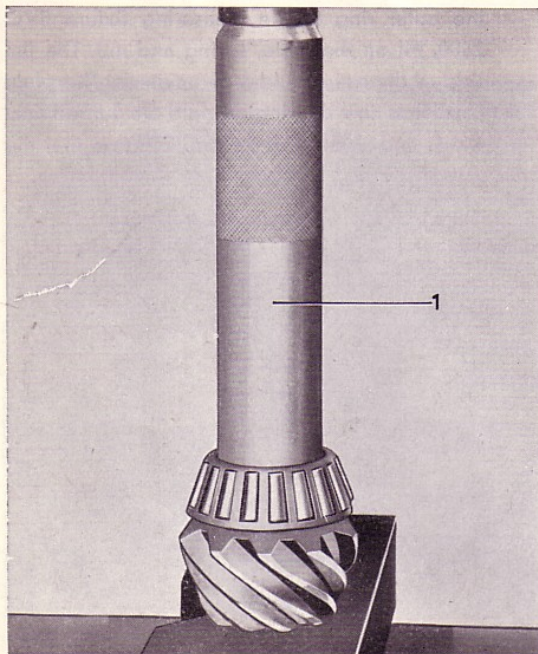
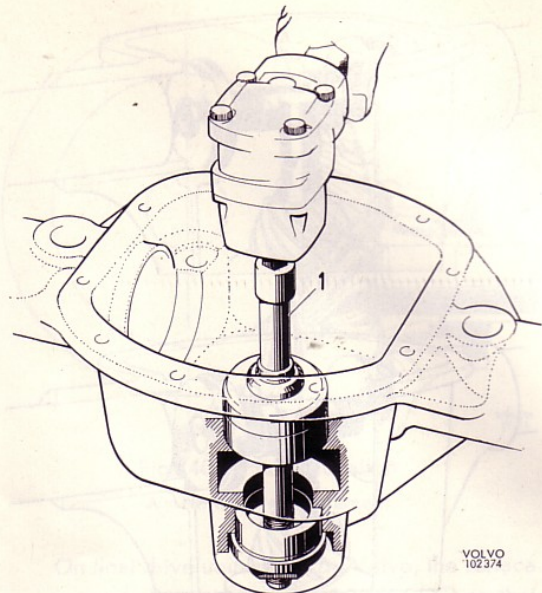

Fig. 46. Fitting the rear pinion bearing
Fig. 47. Fitting the bearing rings
4. Press the rear bearing on the pinion with sleeve SVO 2395, see Fig. 46. NOTE. The washer under the rear bearing inner ring on a new Volvo final drive unit should **not** be fitted after reconditioning has been carried out. Fit the measured shims and press in both the outer rings of the bearings with tool SVO 2688 for the Spicer 23 unit and with tool SVO 2686 for the other final drive units, see Fig. 47.